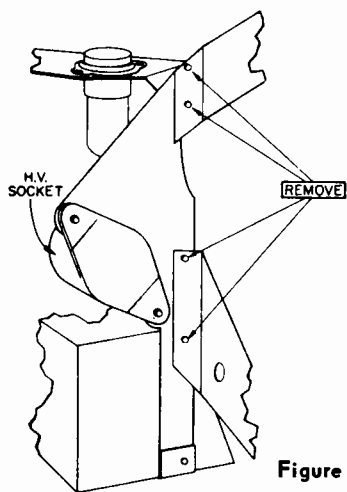

Figure 1 - Bracket Screw Removal
To provide easy access to the PC board, the CRT assembly can be partially disassembled (see Figures 1 and 2).
1. Remove the 4 screws shown in Figure 1.